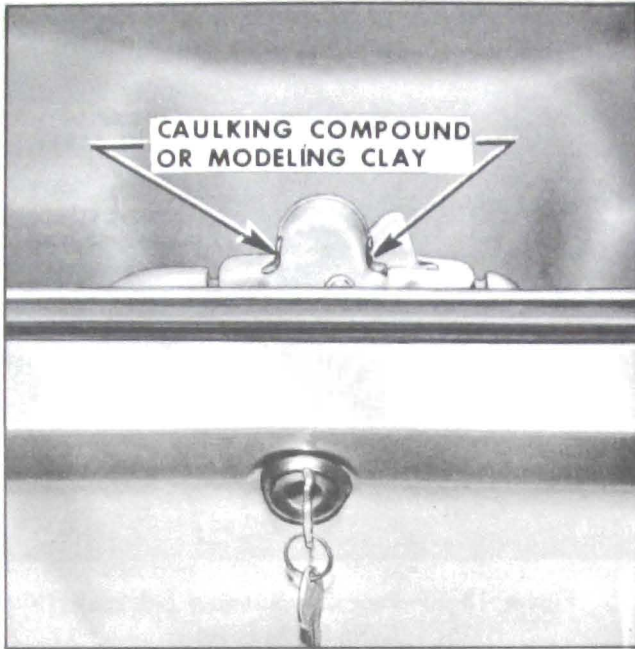

Figure 13-74—Rear Compartment Lid Lock Striker Engagement Check
1. Place a small amount of modeling clay or body caulking compound on frame of lock at both sides of the lock bolt. See Figure 13-74. Close lid with moderate force.
2. Open lid and check amount of engagement of striker with lock frame, as indicated by the compression of the clay. The striker impressions in the clay should be even on both sides of the lock frame, as indicated in Figure 13-74. Where required, loosen striker attaching screws; adjust striker sideways or up or down to obtain proper engagement, then tighten screws.